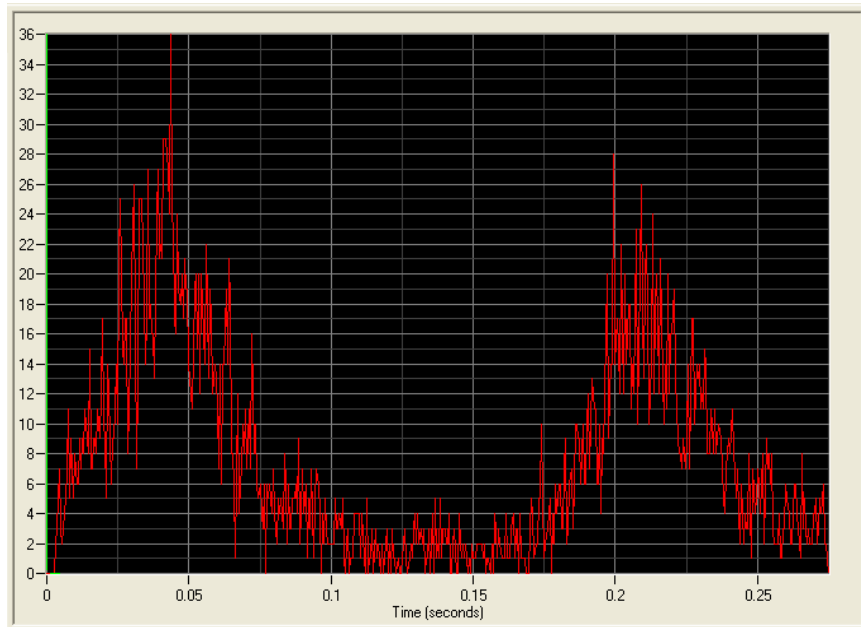

Figure 9
4. Click **OK**. The graph pane will now display a plot of the number of particles detected in each frame (Figure 9).